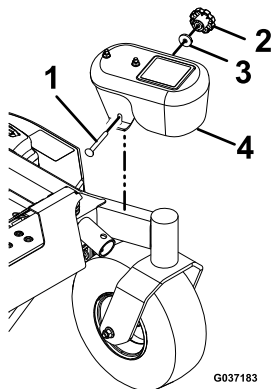

Figure 16
23. Install one removable caster weight on each caster arm as shown in Figure 16.